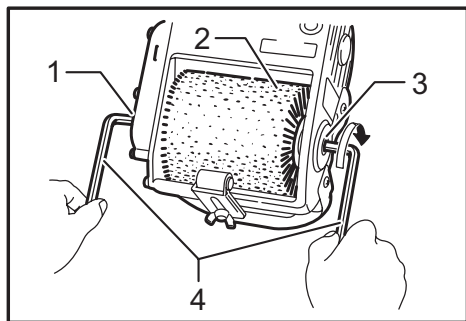

Fig.3
► Fig.3: 1. Spindle 2. Wheel 3. Output shaft 4. Hex wrench